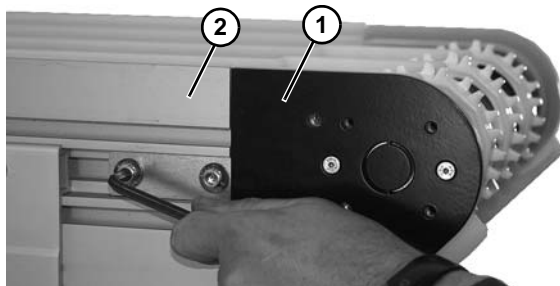

**Figure 59**
13. Remove sprockets (Figure 59, item 1) off the drive spindle (Figure 59, item 2). Inspect and replace if worn.